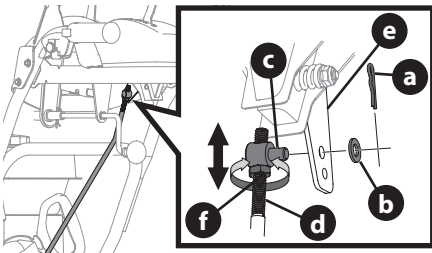

Figure 32
2. Remove cotter pin (a) and washer (b) from adjustment ferrule (c) on shift rod (d) and pull it out from shift lever (e) (Figure 32 inset).
4. If necessary, loosen the jam nut (f) and rotate the ferrule up or down on the shift rod until the ferrule aligns with the upper hole in the shift lever (Figure 32). Tighten jam nut.